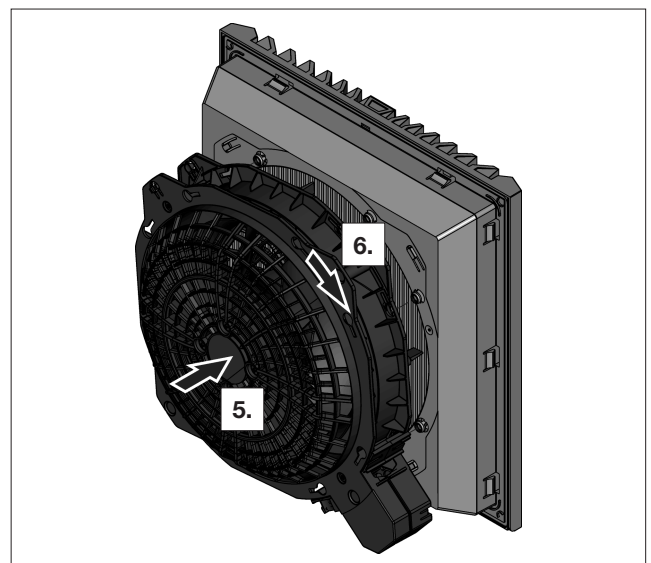

Fig. 12: Locking the bayonet connection
- Place the fan housing back on the filter box (see fig. 12).